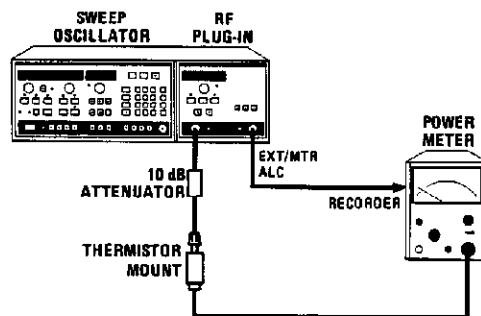

Figure 8-26. Power Meter Leveling Setup
- Attempt to level the power externally using the HP 432A/B/C, 436A, or 438A Power Meter as shown in Figure 8-26. Select **MTR** leveling, and enter a 100 second sweep time. If the RF power is now leveled, the failure is most likely in the detectors or the Detector Selection Switch, A4U6. Refer to the following paragraph. If this does not prove to be the case, the problem may be in the two analog switches U3B and U6A. It may be necessary to perform the ALC adjustments in Section V of this manual.